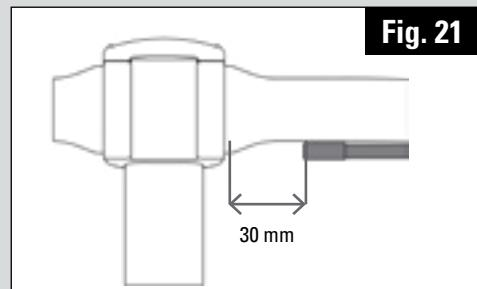

Fig. 21
4.1 / Position a tube from the brake lever along the handlebars, cut it 30 mm from the stem and insert a sheath end (Fig.21).